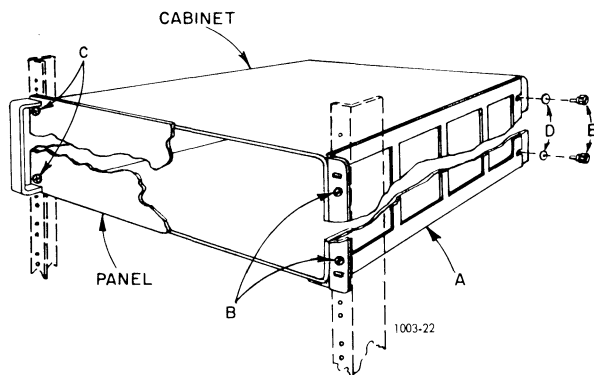

Figure 2-2. Relay rack mounting.
dently of the other. Figure 2-2 illustrates both bracket attachment and rack mounting.
- c. Place the right side rack support (A) on the right side of the cabinet. Be sure that the flange with the mounting holes is forward and flush with the front of the cabinet (see Figure 2-2) when the other flange (without holes) is resting against the bottom of the cabinet.
- d. Assemble two pairs of flat washers (D) and thumbscrews (E).